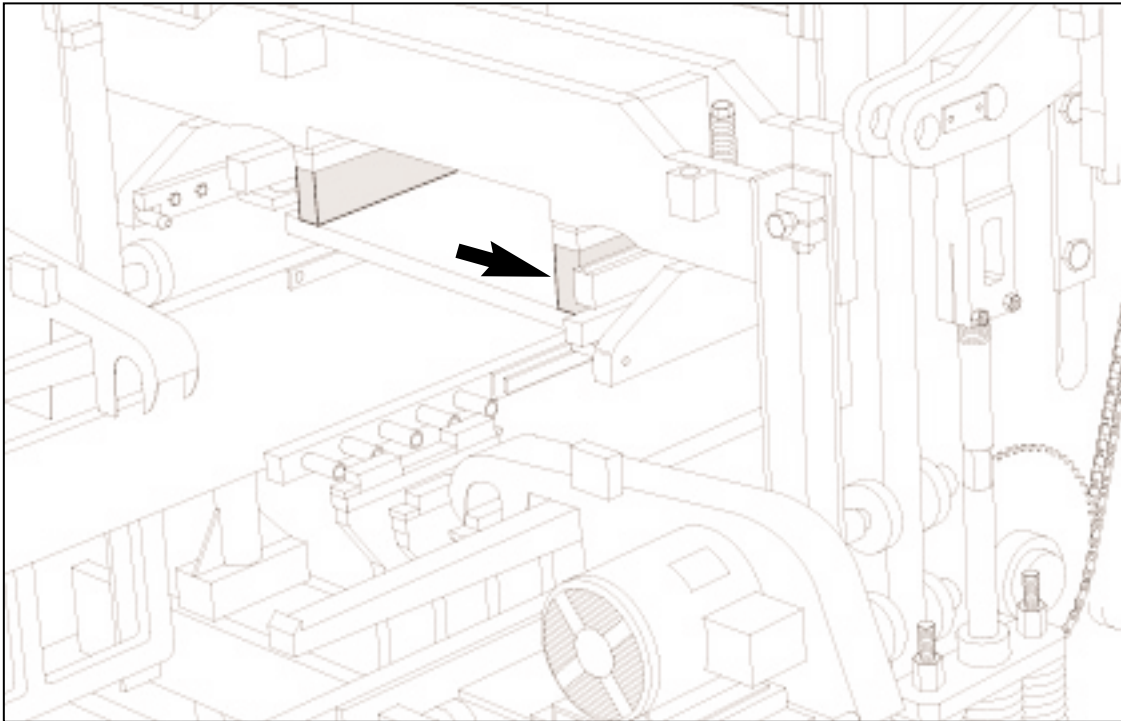

Figure 4.66 95mm (3 3/4") BLOCKING UNDER STRIPPER HEAD FRAME.
- 4.4.9 The SUPERPAC is now ready for the installation of the mold assembly. Follow the directions for installing an attachment in section 5 of this manual. When installing the stripper head use 279 mm (11") long bolts (**part #087136**) and insert 95mm [3 3/4"] of blocking in addition to the 38mm [1 1/2"] blocks already affixed to the stripper head frame (figure 4.66).